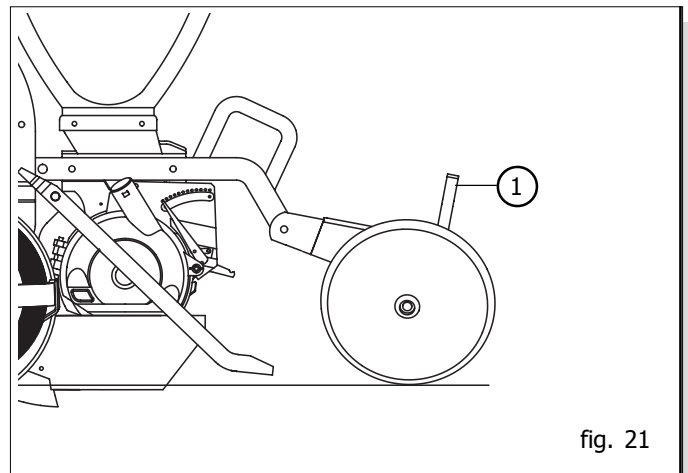

fig. 21
- To close and compact the furrow, regulate the pressure of the tilted rear wheels by means of the crank (1 Fig. 21).